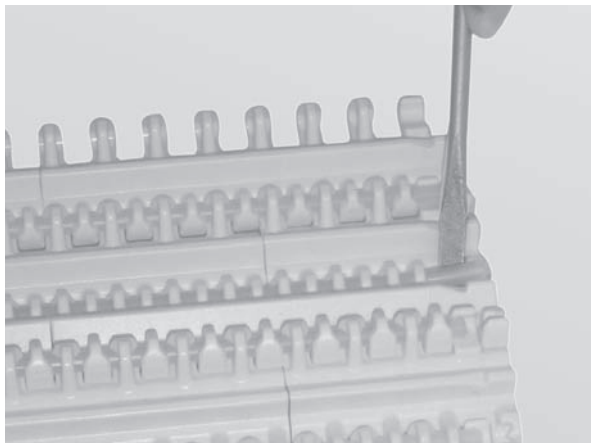

Figure 55
2. Use a flat head screwdriver to raise the end of the belt rod above the retention lip (**Figure 55**).